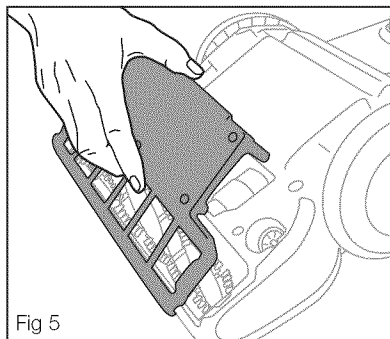

Fig 5
- Lift off brush roll cover (Fig. 5)